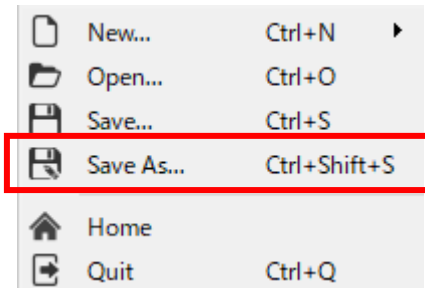

Figure 7-43 Save project file
- b) Click Save As. (Figure 7-43)